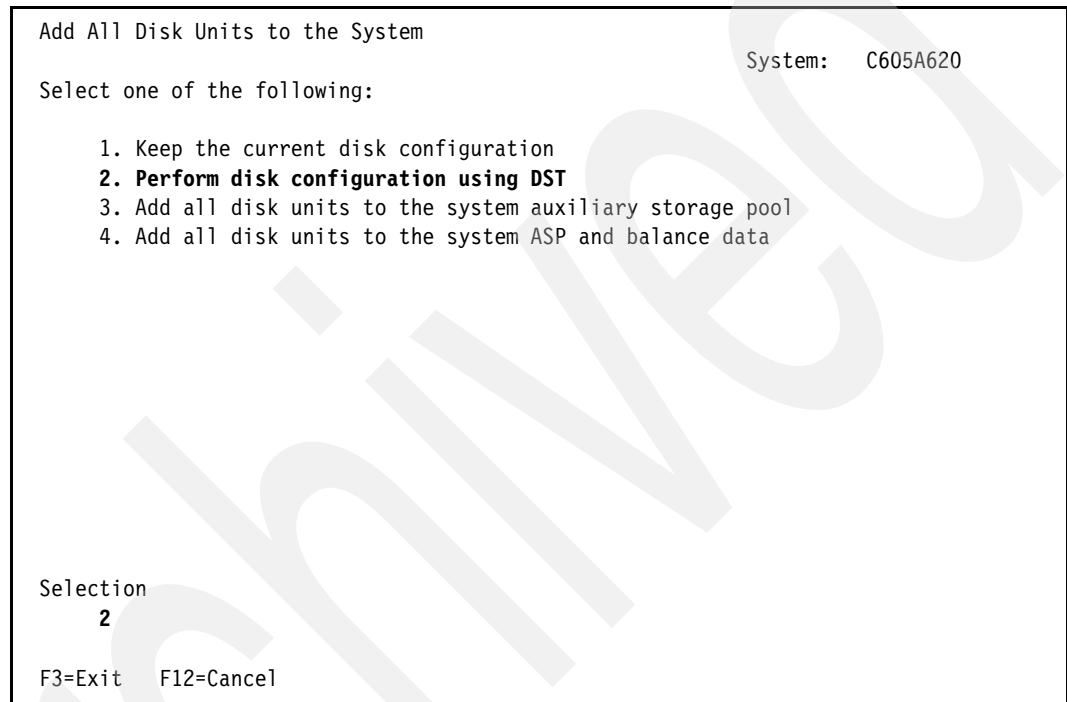

Figure 6-79 IBM i Add All Disk Units to the System panel
18. We select option **2. Perform disk configuration using DST**, as shown in Figure 6-79, so that we can look at our disk configuration and select the virtual LUNs that we want to add to the IBM i auxiliary storage pool configuration.